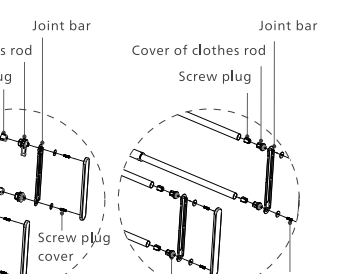

Figure 7
2. As shown in Figure 7 (left is SDR603-AA0, right is SDR603-AB0), unfasten bolt from rod cover assembly and mount each part in following order, screw plug, cover of clothes rod or bed sheet rod or retractable rod, joint bar and washer. Fix all with set screw and put on cover of joint bar.